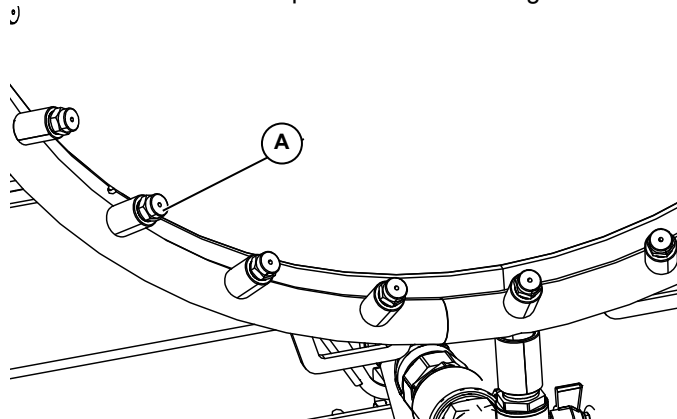

Figure 4-1. Cleaning the Unit
See Figure 4-1. After each use, rinse nozzles (A) with an antilimestone solution to prevent nozzle fouling.